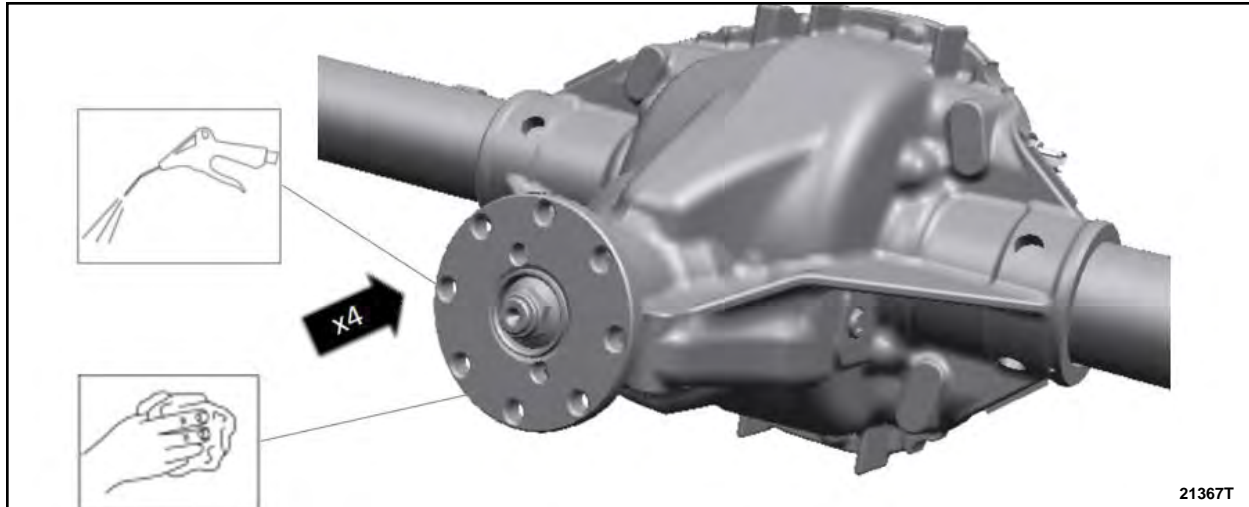

FIGURE 16
19. Using an air blow gun, remove any debris from threaded holes in axle flange. See Figure 16.